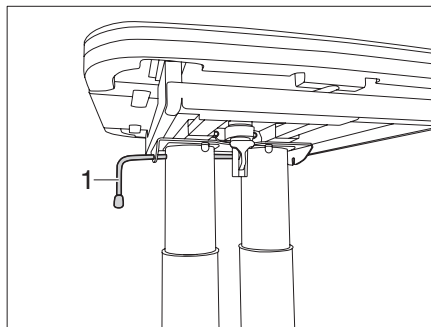

Fig. 72 Lock the table
- ▶ Swivel the catch lever (Fig. 72,1) to the right. The lift-off table is locked.
- ▶ Release the locking lever (Fig. 72,1).
- ▶ Swivel the catch lever (Fig. 72,1) to the left. The lock is open.